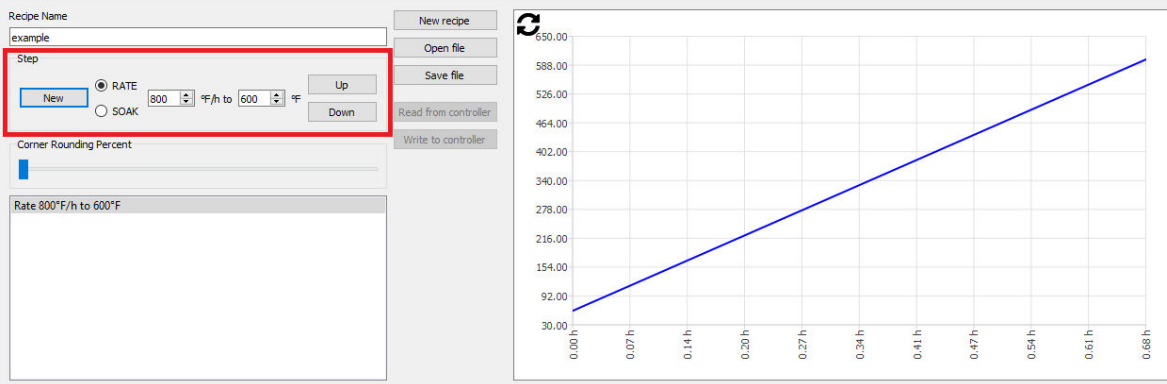

Figure 73: Recipe Editor – ‘Rate’ Step
- Choose “Rate” and enter the ramp rate parameters for the first step of your ‘Post-Weld’ cycle in the new fields that appear. An example is highlighted in Figure 73 below. The ‘Recipe Viewer’ window on the right will start to illustrate a visual version of your recipe.